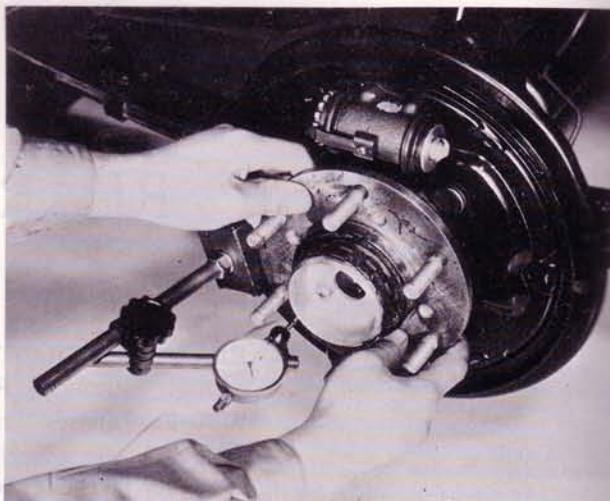

Fig. 9-1 Checking end play
3. Mount a dial indicator to the backing plate to check end play (Fig. 9-1).